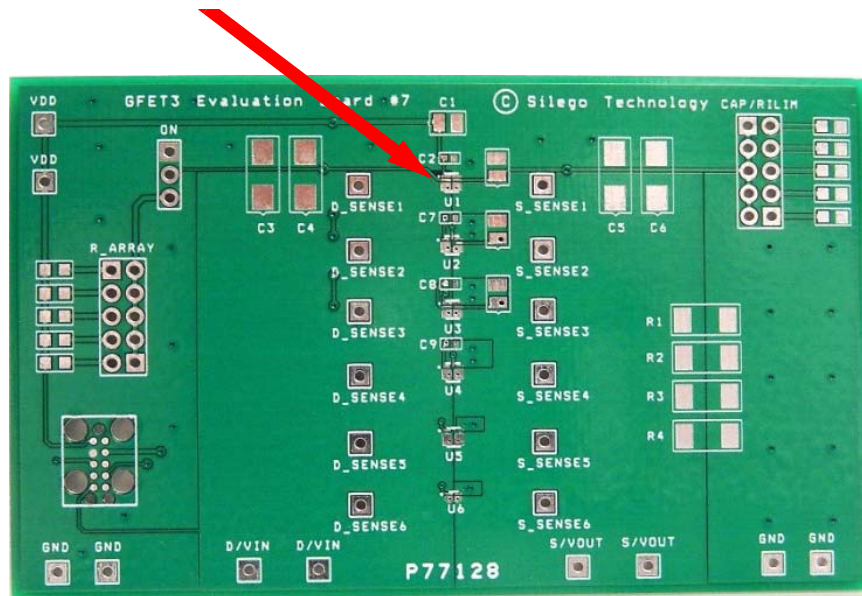

Figure 1. SLG59M301V Evaluation Board.
2. Since the D/VIN and S/VOUT pins dissipate most of the heat generated during high-load current operation, it is highly recommended to make power traces as short, direct, and wide as possible. A good practice is to make power traces with an absolute minimum widths of 15 mils (0.381 mm) per Ampere. A representative layout, shown in Figure 1, illustrates proper techniques for heat to transfer as efficiently as possible out of the device;
A GFET3 Evaluation Board for SLG59M301V is designed according to the statements above and is illustrated on Figure 1. Please note that evaluation board has D\_Sense and S\_Sense pads. They cannot carry high currents and dedicated only for RDSON evaluation.